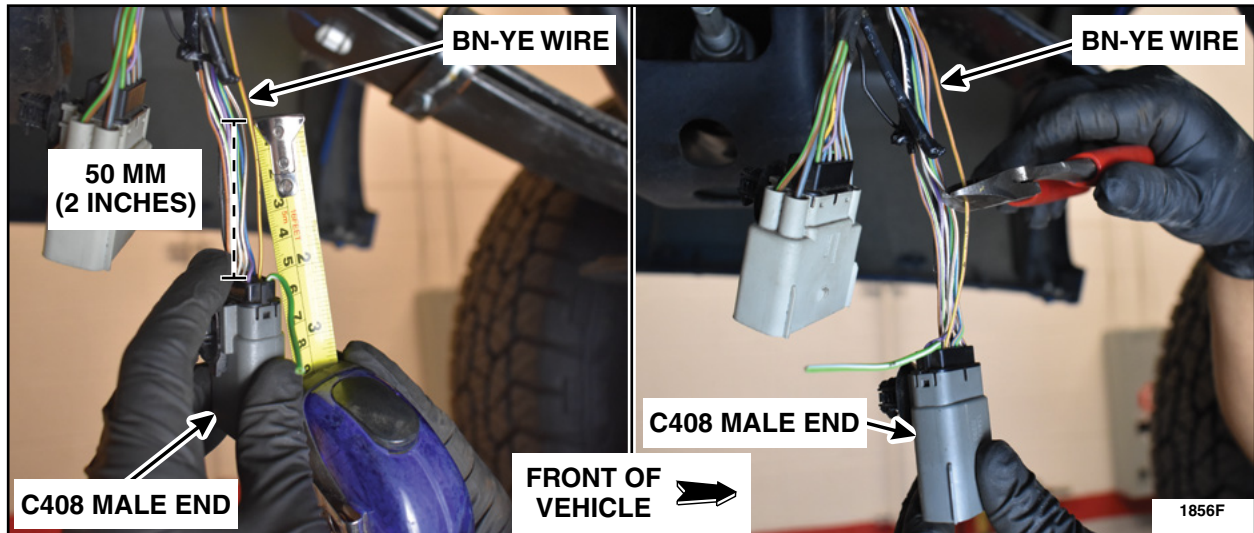

FIGURE 7
10. Measure 50 mm (2 in) from the back side of the male end of C408 and cut the Brown-Yellow (BN-YE) wire (cavity 2) at the 50 mm (2 in) measurement. See Figure 7.